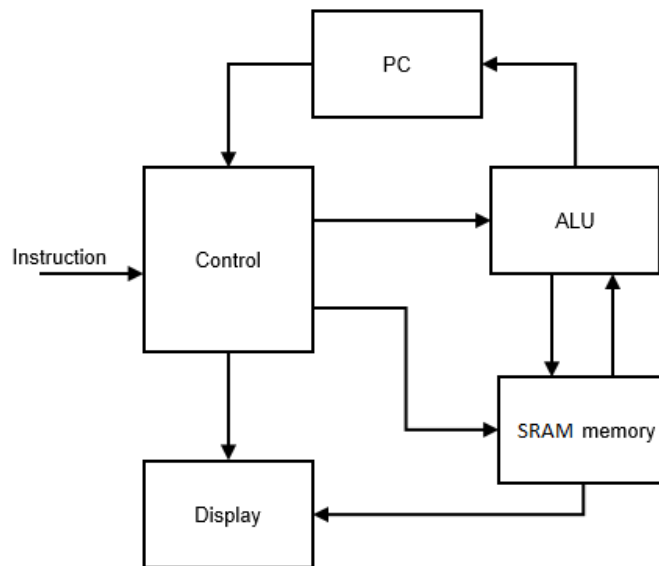

Figure 22: Block overview of processor
In this lab you will create a simple processor that can compute 8 operations. Figure 22 shows the components of a simple processor. The processor consists of an ALU, a SRAM memory bank, a control unit, a program counter (PC), and a display.